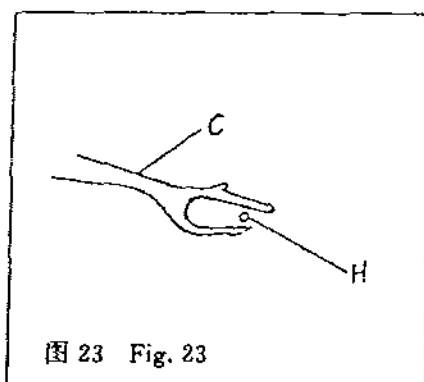

图 23 Fig. 23
- ② 作上述调整后, 必须检查钩线叉在左端(图 23)时, 机针“H”的针尖应在钩线叉“C”的叉口中间或机针稍低于中间位置通过。如有相撞, 必须作相应调整, 达到左右兼顾。
(3) Adjustment of the position of the thread hook
- ② When the thread hook locates at the left end (Fig. 23) after completing the said adjustment, the needle point “H” shall be in the middle of the prong of the thread hook “C”. The needle can also pass the thread hook at a location lower a bit than the middle. Micro-adjustment can be made if the needle point comes into contact with the thread hook.
(4) 钩线叉的前后位置